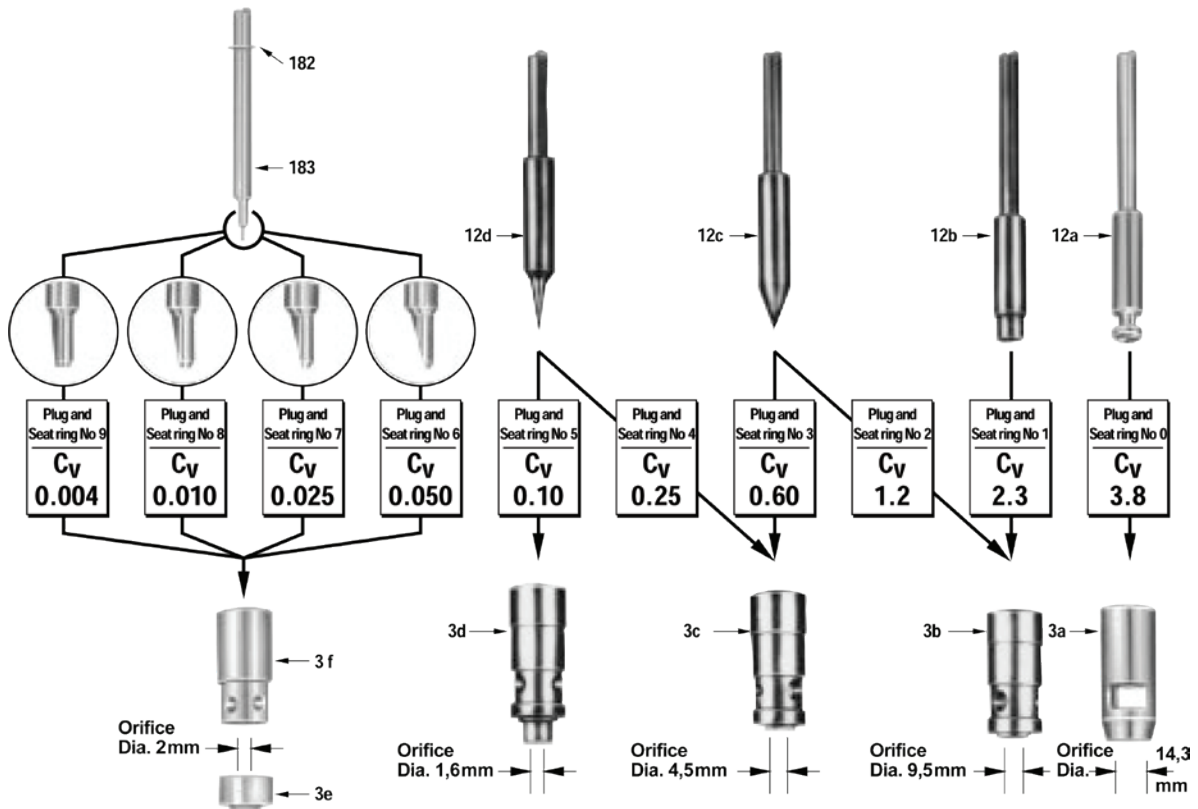

Figure 2 - Ten plug and seat ring assemblies (Trim)
Eight plugs and five seat rings can be used in combination to obtain ten different plug and seat ring assemblies (See Figure 2).
Each plug design and the seat ring orifice diameter permit to identify parts in relation to Figure 2.
See Figure 2 to select the plug and seat ring combination to obtain the required  $C_v$ .
2. Complete sub-assembly includes: Plug-stem (183), Retaining ring (182), Seat ring (3e) and Spacer (3f). See Figure 2.
- Insert the plug-stem (12 or 183) into the seat ring (3). For a  $C_v < 0.10$ , ensure that there is no binding during the stroking of the plug. If binding occurs, loosen the retainer (4) and replace the seat ring (3e) in the correct position until the stem smoothly slides.
- Slide spacer (5) aligning the hole in the spacer with the safety pin (11) hole in the valve body.
**Note:** For a  $C_v$  smaller than 0.10, ensure that the retaining ring (182) is placed on the plug before engaging it in the spacer (3f). If the retaining ring is damaged, replace it.
- Wrap the safety pin (11) with two turns of PTFE tape (Teflon). Screw it into the bonnet five and a half to six turns from where threads engagement starts.
- Install packing, positioning the skive cut of each packing ring 120° away from the cut of an adjacent ring. Slightly push down rings one after another using a tube 1/2" schedule 160 size. Install packing follower (9) on the plug stem.
- Hold actuator above body S/A. Before that actuator stem contacts the plug stem, screw two nuts (8a) on the two studs (7), slide packing flange (10) on the stem and the studs and screw the two nuts (27) to the threaded end of plug stem.